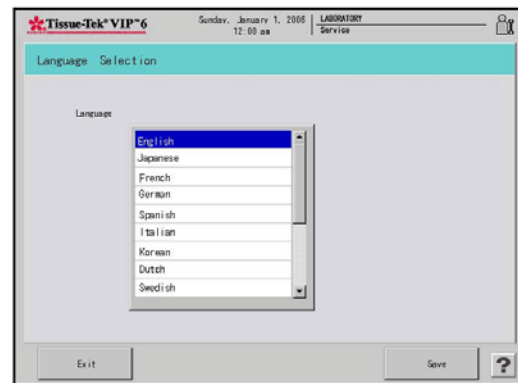

Figure 3-X
- The Language Selection screen displays (Figure 3-X).